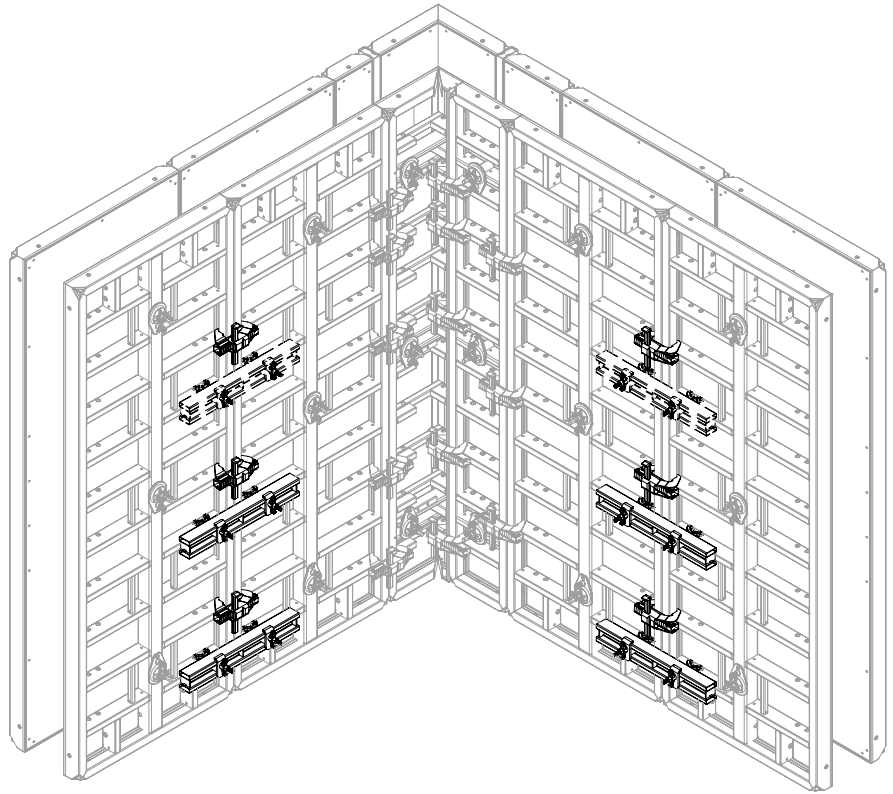

Fig. C3.02
With extensions, a second Compensation Waler MAR 85 (21) is required on the panel joint (shown as a dotted line). (Fig. C3.02 + C3.03)
(Fig. C3.02)